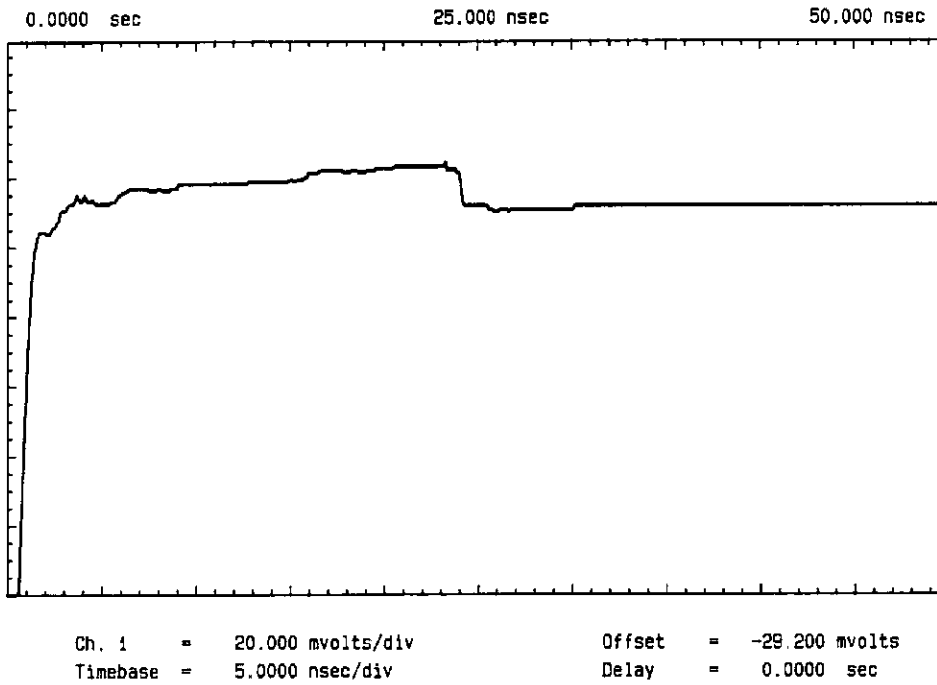
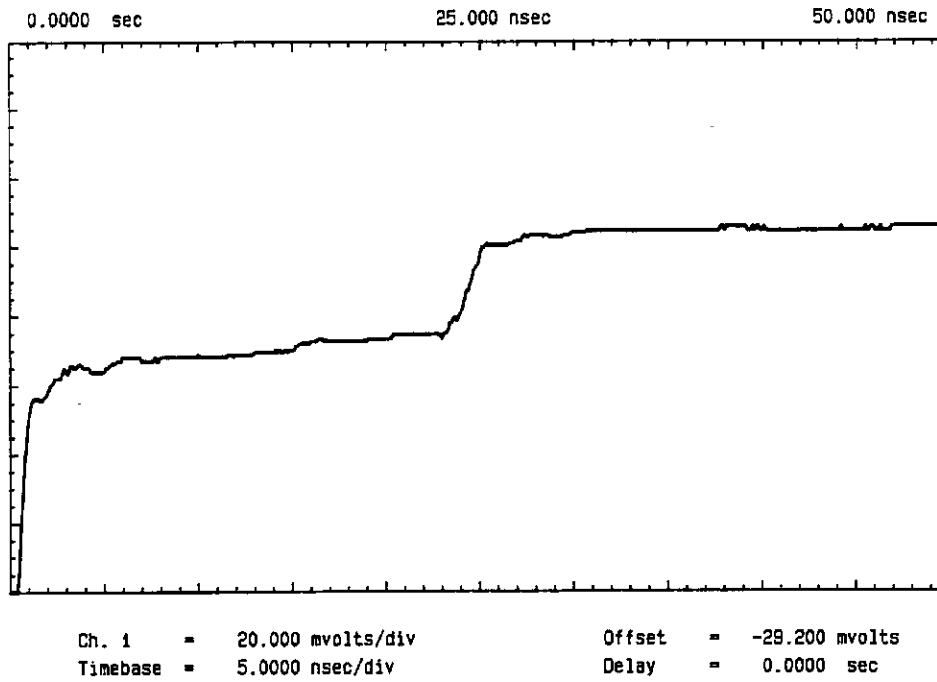

Figure 4-2. Sampling Efficiency Over-compensated
Figure 4-3. Sampling Efficiency Under-compensated
*Particular care should be taken to minimize the step that occurs 25 ns after rising edge of pulse. Figure 4-1 shows the sampling efficiency when it is adjusted to optimum. Figure 4-2 shows the sampling efficiency when it is over-compensated and figure 4-3 shows the sampling efficiency when it is under-compensated.*